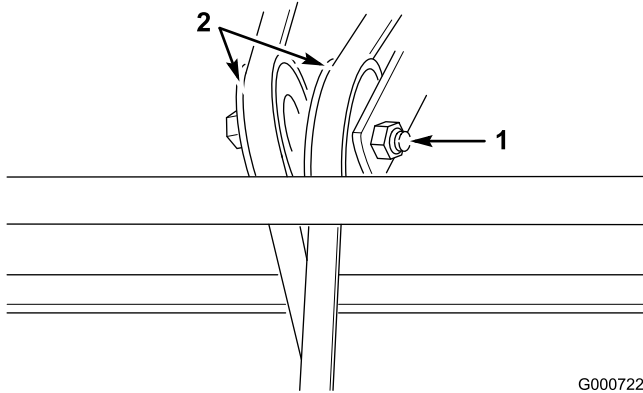

Figure 32
2. Loosen the nut and slide the pulley until belt is at the proper tension (Figure 32).
4. Cut the old belt and remove it (Figure 32).
5. Loosen the adjustment nuts on the belt tightener pulleys (Figure 32).